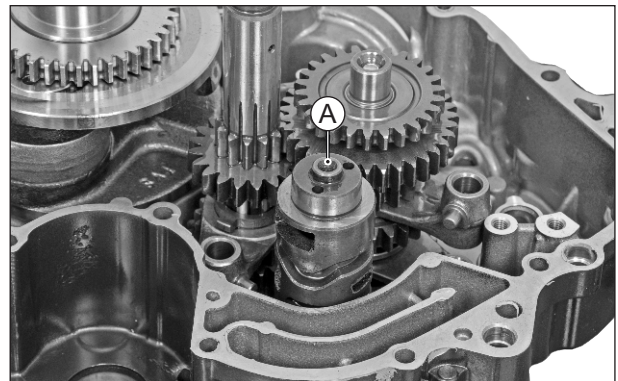

Fig. 3.185
- Assemble cam gear shift (A) in the crankcase assembly. (Fig. 3.185) and locate both the fork gear shifts in their respective grooves on the cam complete gear shift.